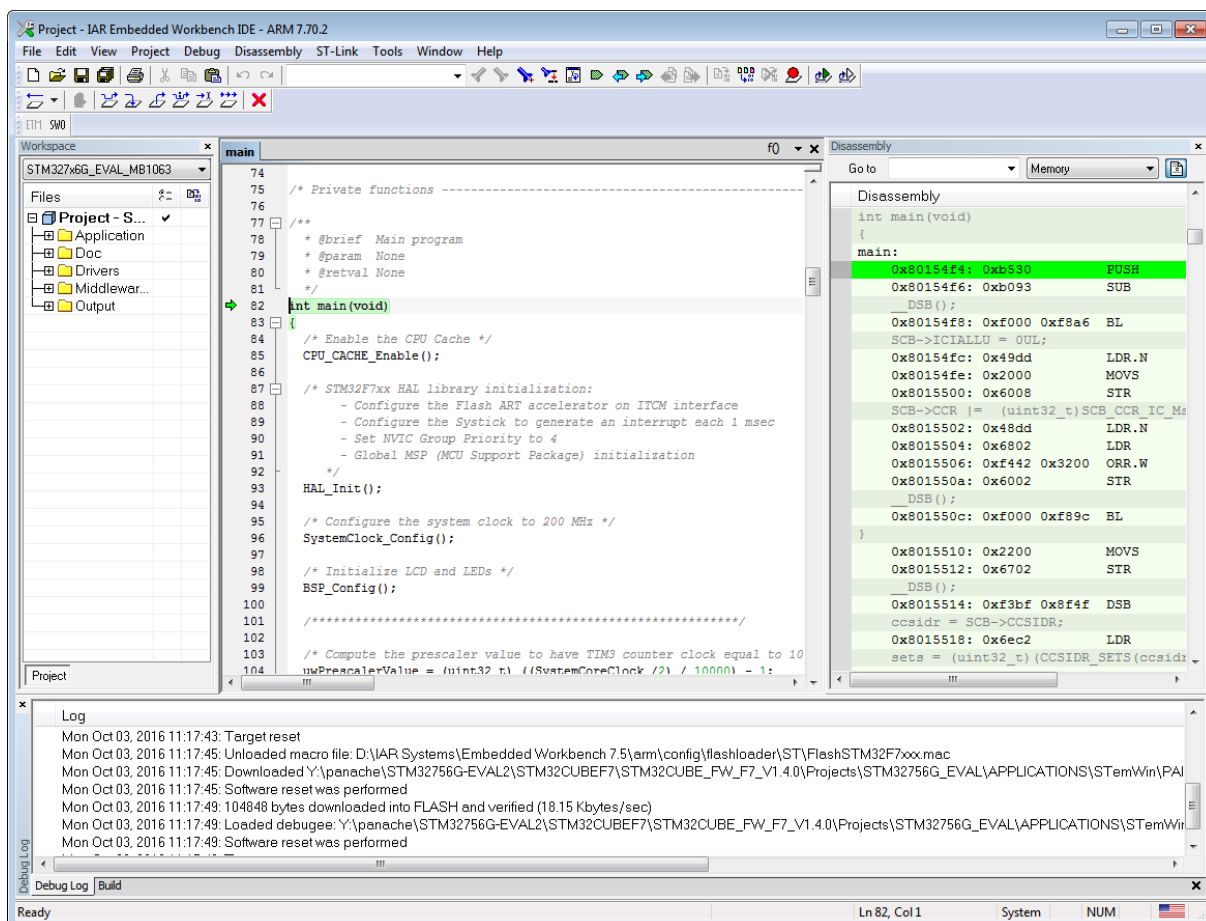

Figure 3: EWARM debugger.
13. Debug the application, examine menu *Debug*. Snapshot of running debugger can be seen in Figure 3.